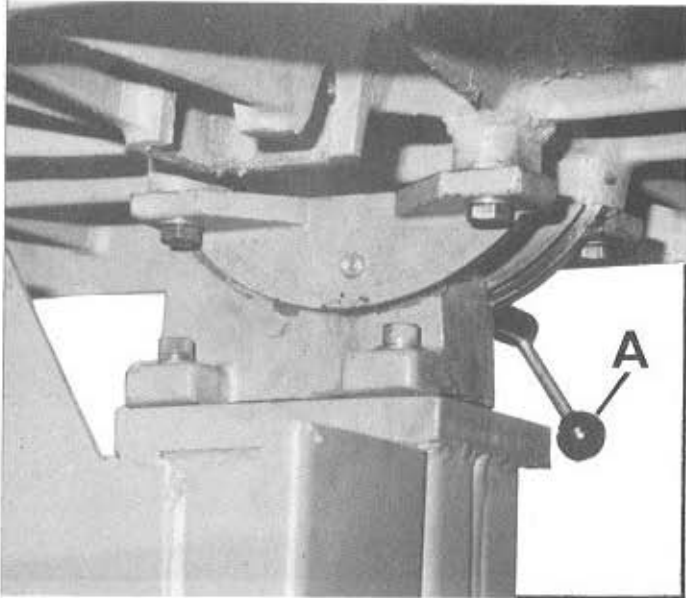
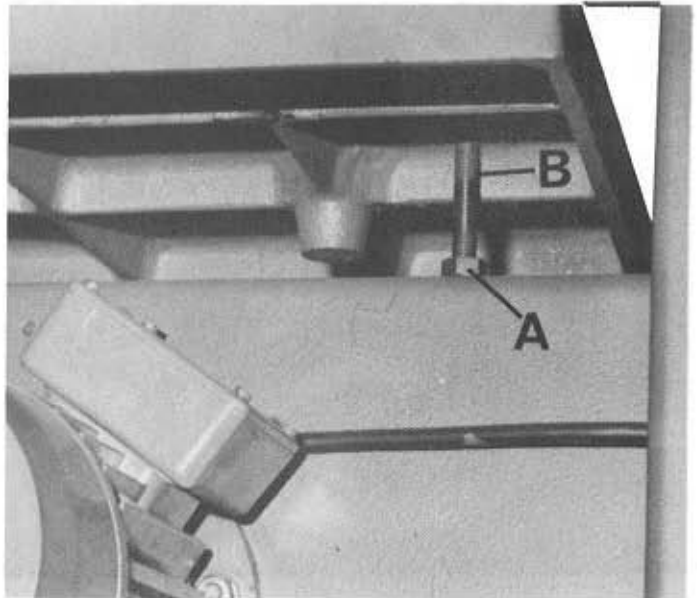

FIG 17
FIG 18
2. Loosen lever "A", FIG.17.
4. If adjustment is necessary, loosen lever "A", FIG.17, and M12 locknut "A", FIG.18.
5. Set table square to sawblade by the steel square then relock lever "A", FIG.17.
6. Turn screw "B", FIG.18, until it locks against underside of table then relock M12 locknut "A".